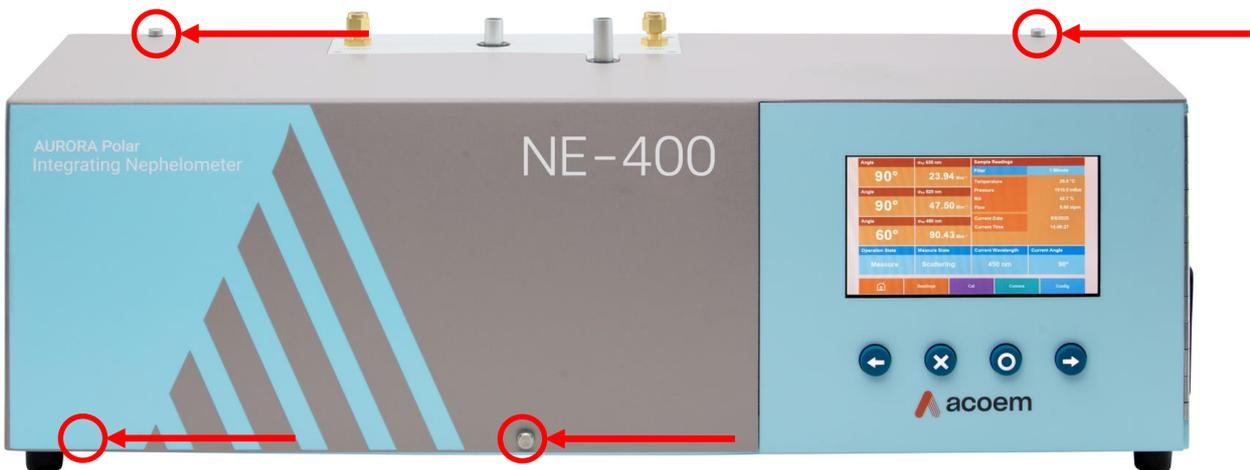

Figure 34 – Chassis Lid Thumb Screw Location
3. Remove the remaining three or four thumb screws (depending on the chassis version) from the chassis lid and lift upwards, refer to Figure 34.